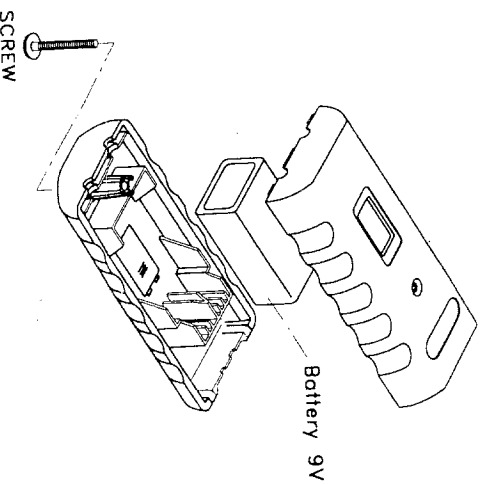

Figure 2
- The meter is powered by a alkaline 9V battery, Refer to Figure 2 and use the following procedure to replace the battery.